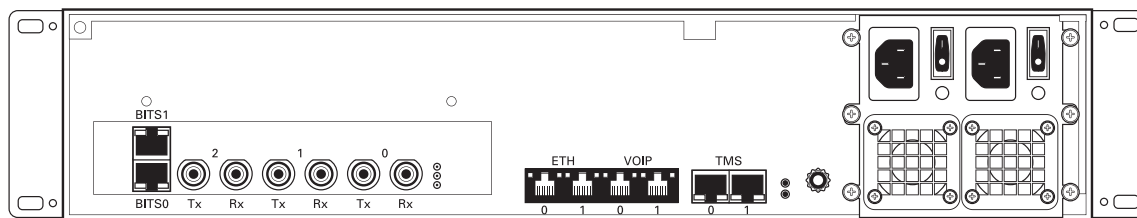

Figure 4.4
A TMG7800-DS3 with 3 sets of BNC connectors enables the connection to DS3 lines. See figure 4.4 on page 29.
1. Start with the Dual BNC port pair #0 (right-most) as shown in figure 4.4 on page 29. Connect one pair of BNC cables between this port and the DS3 line.